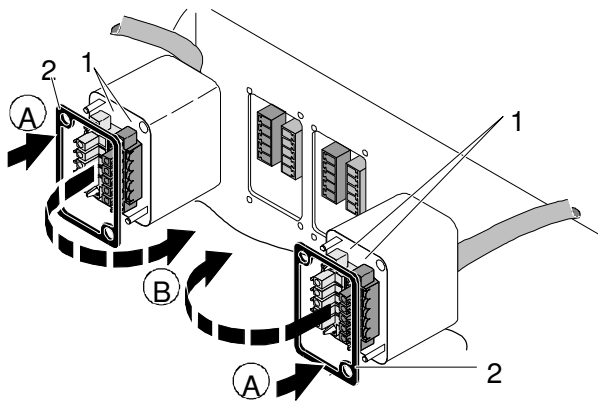

Figure 5-5: Plug-in of the SAB Cab
- Put on the sealing (2) in Figure 5-5) to the SAB cab (A).
- Plug in the SAB cab to the connector at the bottom of the reader box (B).